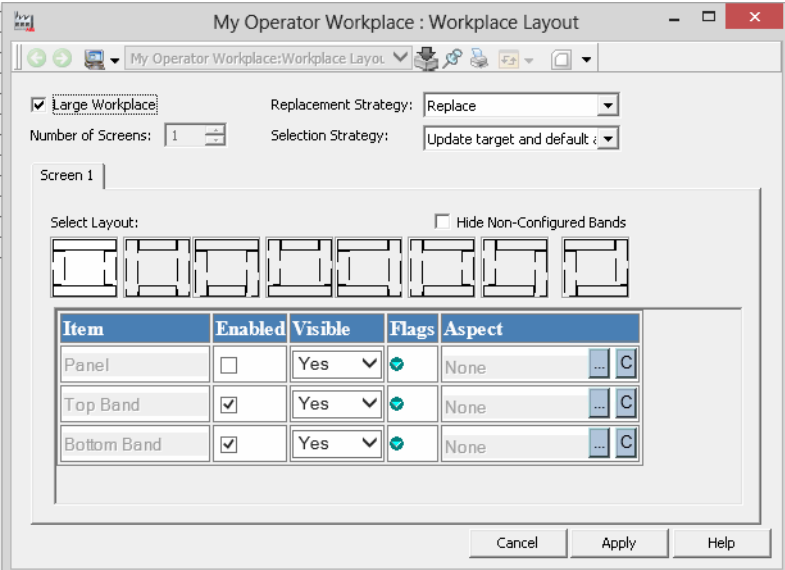

Figure 11. The Workplace Layout Dialog Box
3. Select the Workplace Layout aspect. The Workplace Layout dialog box in Figure 11 will appear.
To configure the Application Bar from the Workplace Layout aspect, see Figure 11: